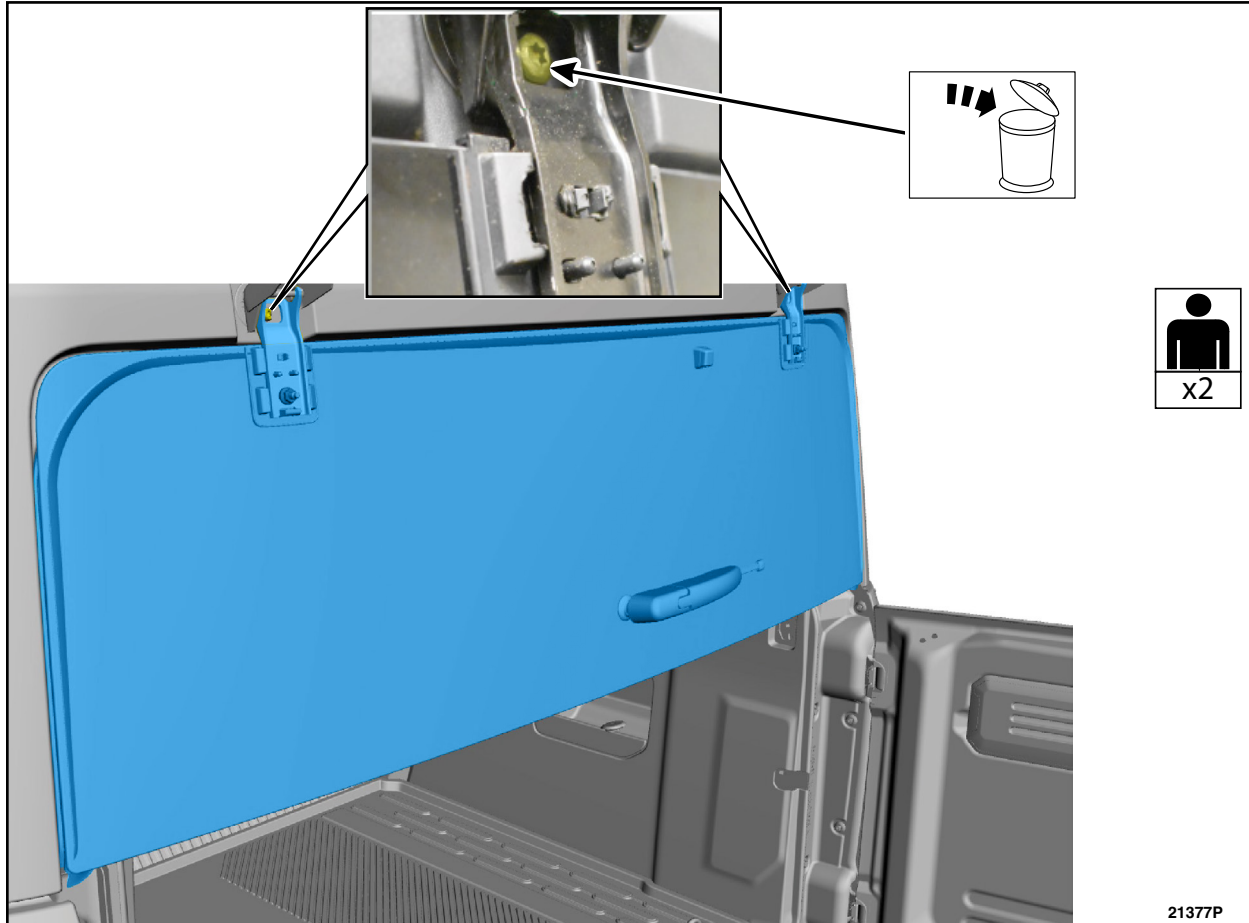

FIGURE 21
8. Remove and discard the two liftgate window glass hinge bolts, then remove the liftgate window glass. See Figure 21.